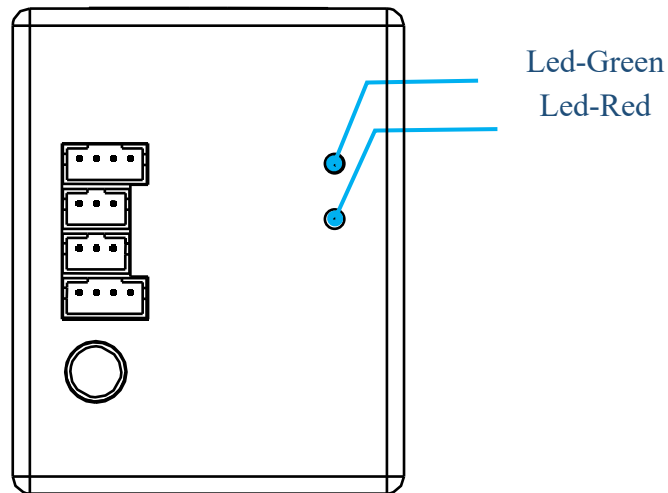

Figure3.47 LED light on Bluetooth expansion module
- (2) Turn on the power of the manipulator. At this time, the red LED on the Bluetooth extension module starts to flash, indicating that it is waiting for the Bluetooth teach pendant to connect. The location of the red LED is shown in Figure 3.47.